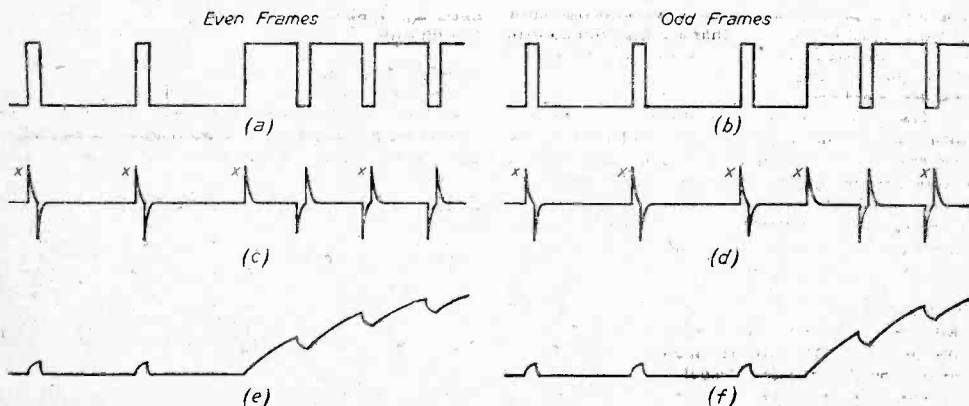

Fig. 1.—A train of line and frame sync pulses for even and odd frames (a) and (b), differentiated pulses (c) and (d), integrated pulses (e) and (f).
**T**HE composite picture and synchronising signal is fed to the input of the synchronising separator stage, which should— for successful synchronising— completely eliminate the vision content, leaving only the sync pulses such as shown in Fig. 1 (a) and (b).
The effect of feeding the mixed pulse train of Fig. 1 (a) and (b) into the differentiating circuit is shown diagrammatically at Fig. 1 (c) and (d). It will be seen that the frame pulses when passed through the circuit lose their identity and are also differentiated to form a set
The pulses employed for line synchronism are marked "x" in Fig. 1 (c) and (d). Therefore, it can be seen that during the frame pulses the line oscillator remains synchronised due to the differentiated leading edge of every other frame pulse; the sync pulse for the half line during odd frames being clearly indicated.
The effect of feeding both line and frame sync pulses into the integrating circuit is shown diagrammatically at (e) and (f) Fig. 1. The short duration line pulses are distorted and greatly reduced in amplitude, since they